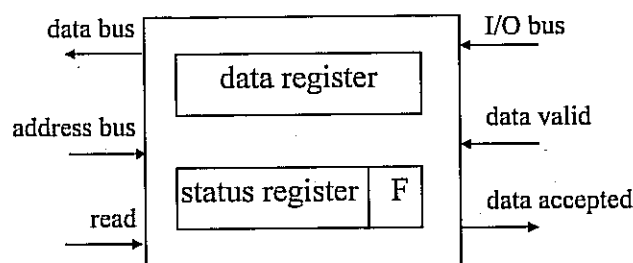

Fig. 6.1 Interface unit for data transfer
6. An interface unit designed for data transfer from I/O device to a computer is given in the Fig. 6.1.